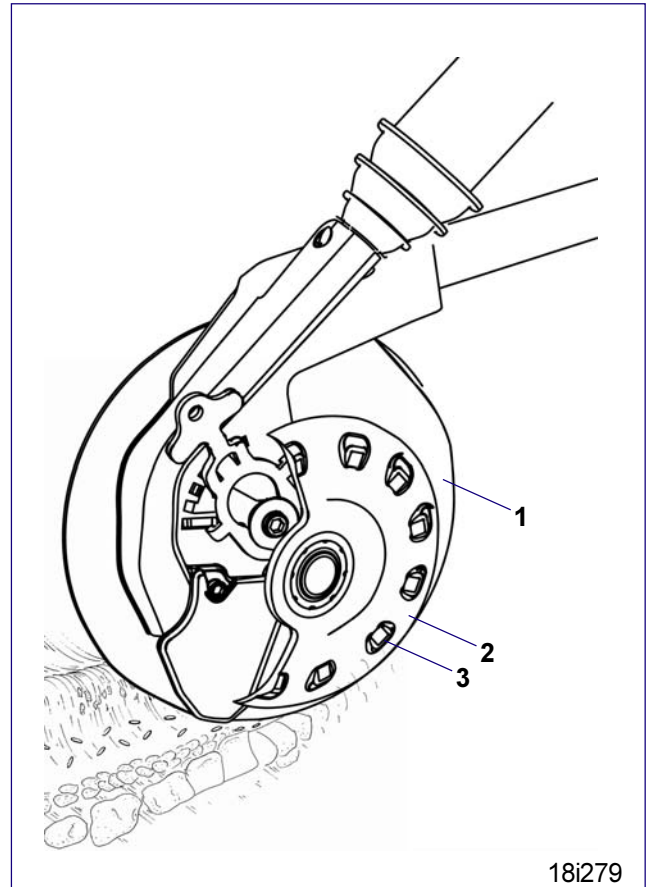
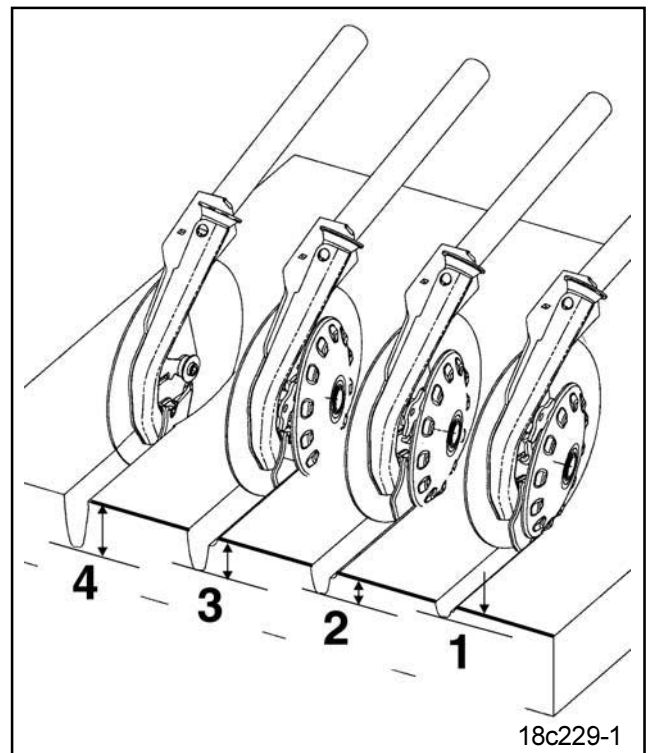

Fig. 2.5
Fig. 2.6
The AMAZONE RoTeC-coulter (Fig. 2.5) optimises the sowing accuracy, area efficiency, and life time when sowing after the plough and mulch sowing.
The steel disc (Fig. 2.5/1) is off set by only 7° as seen in the driven direction so that even at high forward speeds only a little soil is moved.
The seed furrow has almost got a rectangular profile which is formed by the steel disc and the cast iron unit. In this way, a solid seed furrow is achieved which ensures an accurate seed placement depth. Due to the small angle of attack hardly any soil sticks to the side of the disc, even on sticky soils. The flexible polyurethane (PU) disc (Fig. 2.5/2) which is attached to the steel disc carefully cleans the back of the disc. The moulded lugs (Fig. 2.5/3) of the PU disc provide additional drive.
The PU-disc (Fig. 2.5/2) is also used as a depth limiting roller as it rolls on the soil and limits the penetration depth of the steel disc into the soil. This penetration depth can be set by means of a grip handle in three steps from 2 to 4 cm (Fig. 2.6, Item 1-3).
For deep sowing greater than 4 cm (Fig. 2.6, Item 4) the depth limiting disc can be removed without tools.